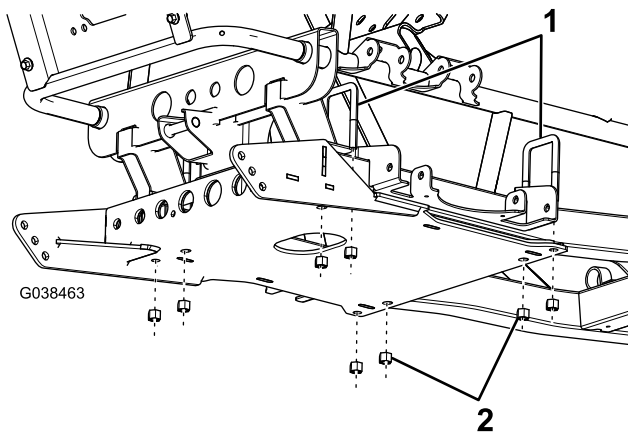

Figure 6
- Using 4 large U-bolts and 8 locknuts (3/8 inch), loosely attach the skid plate to the vehicle frame (Figure 6).